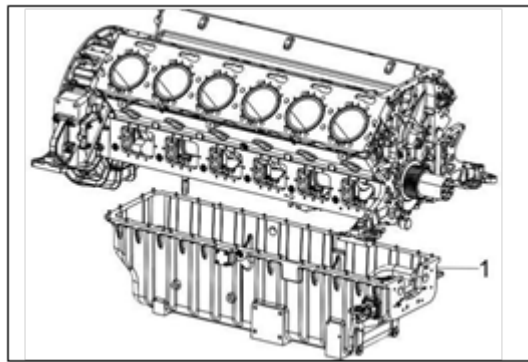

Figure 104.
3. Remove the oil pan (Figure 104, item 1).